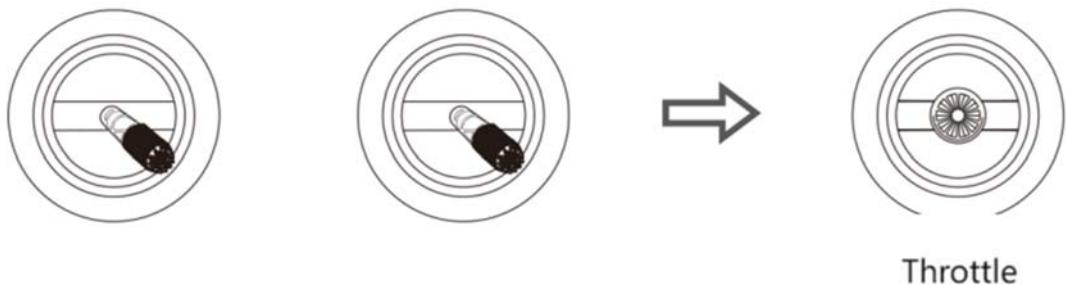

Figure 2-5 Unlock and Take Off
Step5: The drone remains at its current altitude and hovers after the throttle lever is centered, as shown in Figure 2-5.